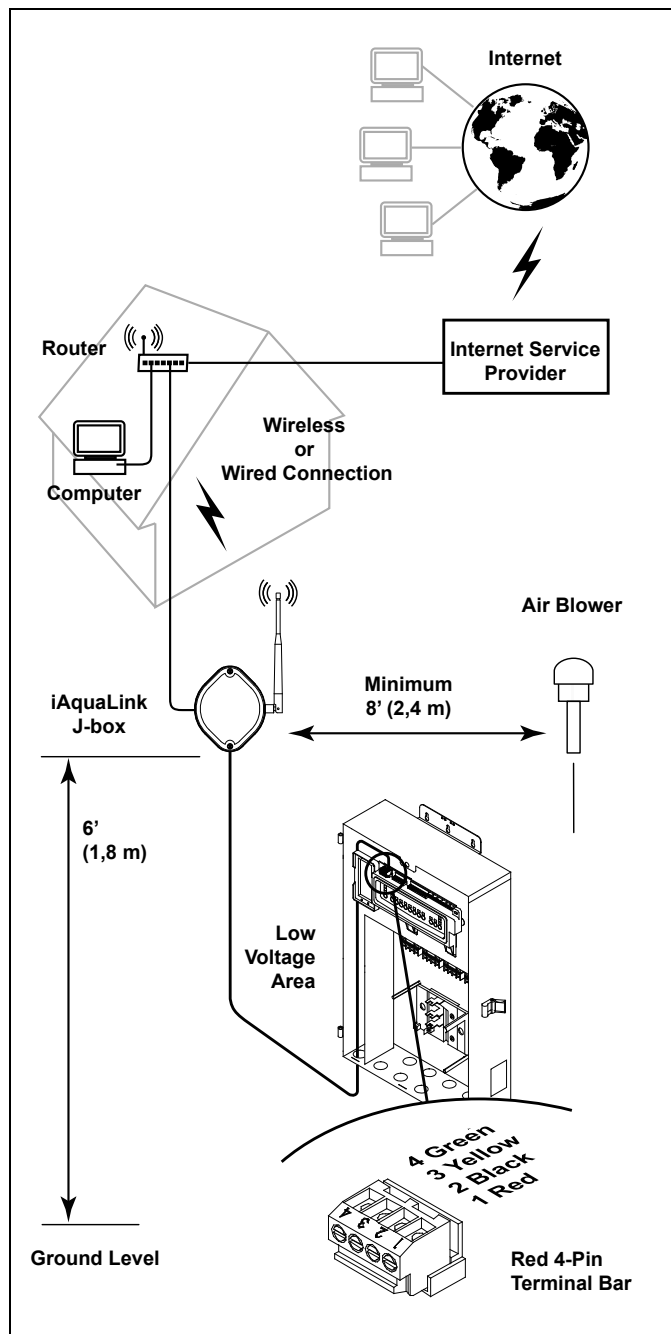

Figure 3. iAquaLink J-Box Outdoor Installation
2. Mount the outdoor iAquaLink J-box at least six (6) feet (1,8 m) above the ground, at least eight (8) feet (2,4 m) from any motor or air blowers that may be in the vicinity, and at least five (5) feet (1,5 m) away from other transceiver J-boxes. See Figure 3.
- NOTE** To improve performance of the transceiver, mount the J-box more than six (6) feet (1,8 m) above the ground.